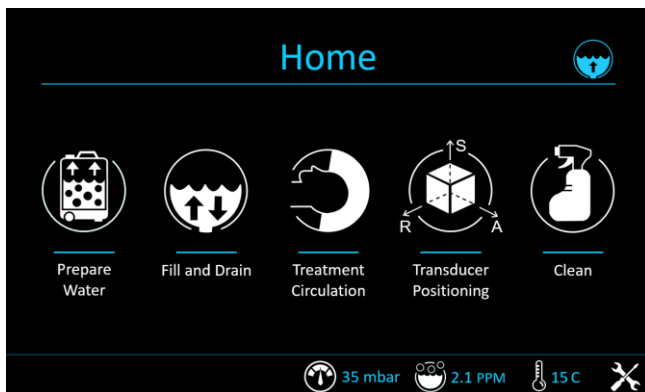

Figure 12-7: 'Home' Menu
Step 12: On the Water system main screen – 'Home' Menu (**Figure 12-7**), press the 'Clean' option